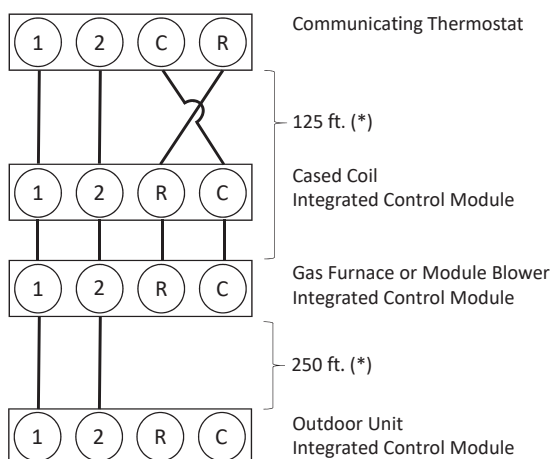

Figure 23 - System Wiring
8. View Figure 23 for reference of Wire Harness Setup.